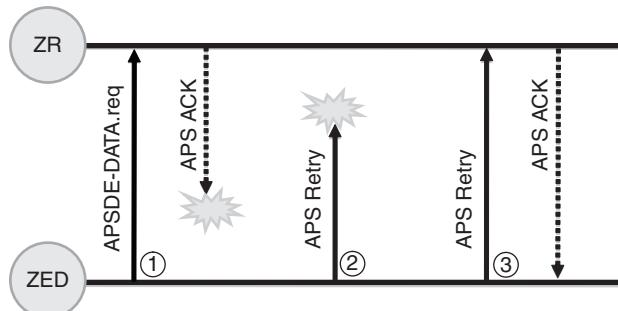

Figure 4.27: APS Retries
To illustrate, take a look at Figure 4.27. Suppose a switch (the ZED) wants to turn on a light (the ZR), and it wants to verify that the light received the command. The switch uses the optional ACK feature in the `AF_DataRequest()` `txOptions` field.
APS is smart enough not to send the packet up to the application twice. In Figure 4.27, both (1) and (3) make it through, but because the data request was already heard at (1), the copy at (3) will be dropped by the APS layer after it sends the ACK to the sender. Your application doesn't have to have any special logic to handle duplicates. ZigBee does it for you.